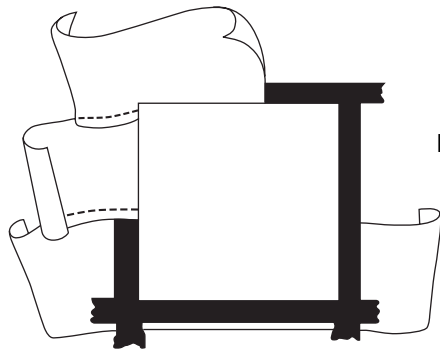

Figure 2
2. Apply the flashing paper in the normal manner. First, apply to the sill-strip then to the jamb-strips. The top flashing goes on after the window is installed and overlaps the top window fin (see figure 2). Must be installed per AAMA2400-02.